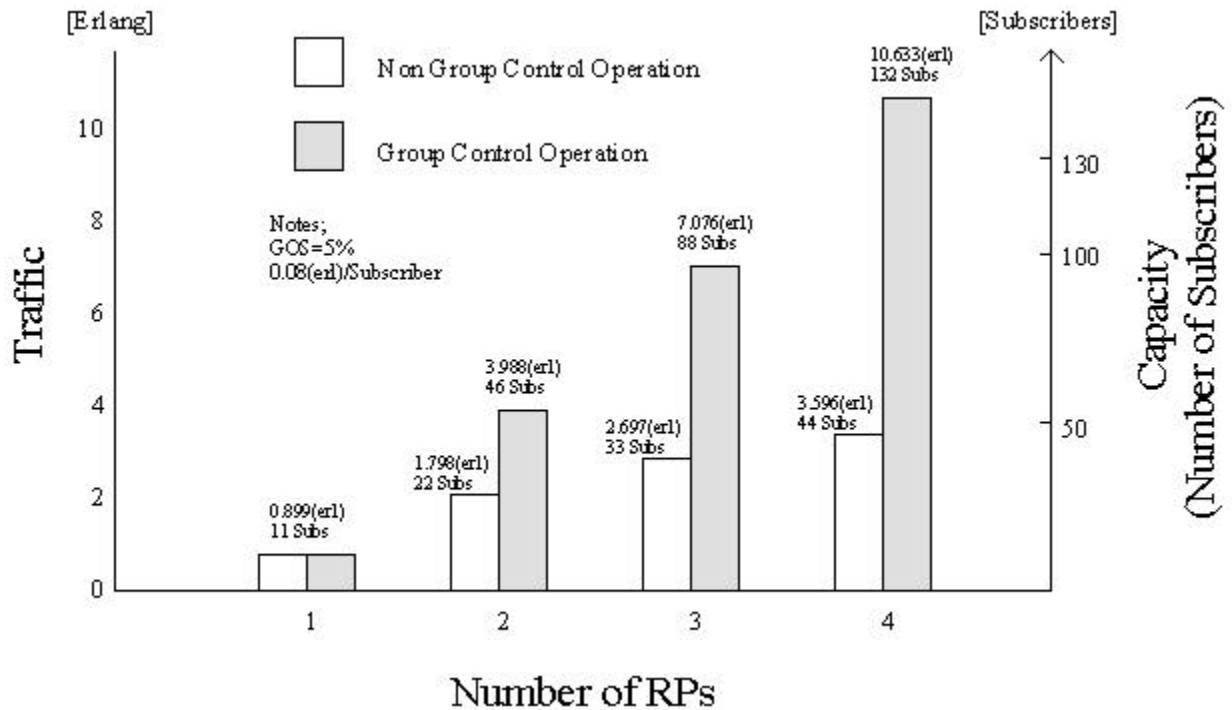

Figure 3-4: Accommodated Subscribers per RP in Group and Non-group Control
The comparison for the number of accommodated subscribers between the group controlled RPs and the single RP is shown in Figure 3-4.
*NOTE: Figure 3-4 represents the group control with 4 RPs. Each group can have a maximum of 8 RPs.*